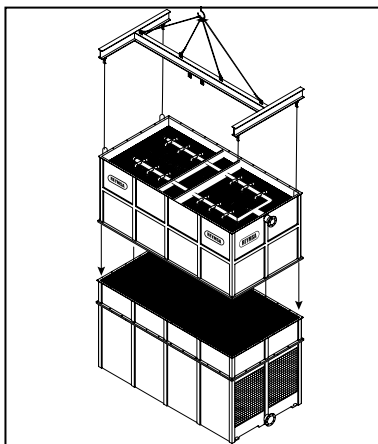

Figure A-112: Upper Body section installation for a modular tower (RTGMTC-G & RTGMTC-H)
- M. **Only for RTGMTC-G & RTGMTC-H models:** Place Upper Body section #M1A on top of Lower Body section #M1A, making sure that the bolt holes are aligned (see Figure A-112). Bolt down and secure the horizontal flanges with the stainless steel nut and bolt sets supplied by REYMSA.